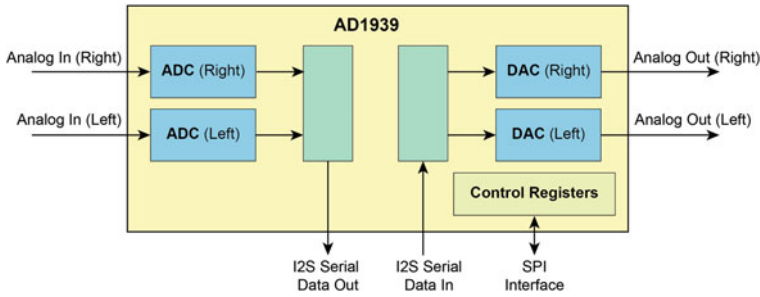

Fig. 5.4: The block diagram of the features used in the Analog Devices AD1939 audio codec
- Reason 2: It has a clean interfaces for data (serial data) and control (SPI). See Fig. 5.4 that shows that the digital ports connect easily to FPGA I/O pins. This is in contrast to some audio codecs that target embedded audio applications where a DSP processor is also included in the device. We wanted a codec where processing would be done externally in an FPGA and had a straightforward interface.